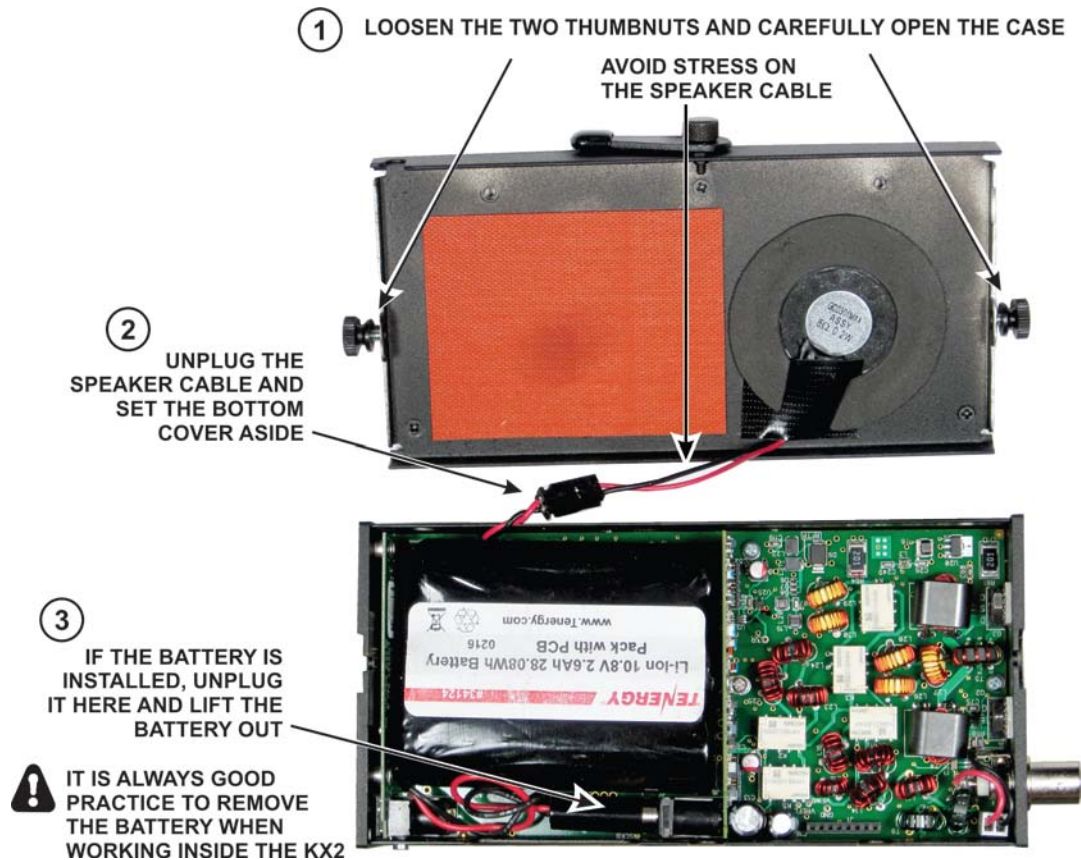

Figure 1. Opening the KX2.
- With the KX2 face down, loosen the two thumb screws and carefully remove the bottom cover as shown in Figure 1. Take care to avoid pulling on the cable leading to the speaker.
- If used, replace the internal battery and plug it in as shown in Figure 1 on page 2.